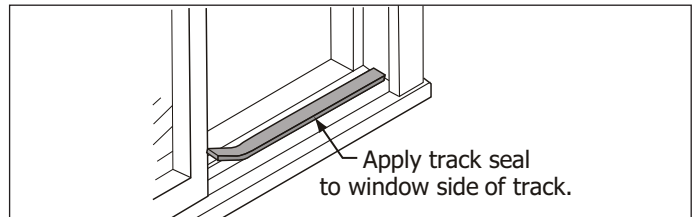

Figure 2-39.
4. Peel off protective backing from track seal. Apply seal to room side of window track. Center of seal strip should coincide with line marked in Step 2. The two screw holes drilled in Step 3 should be directly above seal strip in the inner track. (See Figure 2-39)